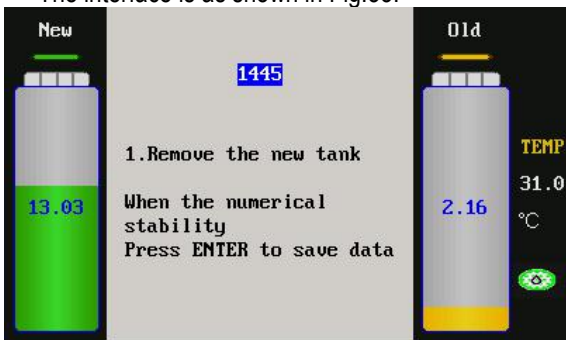

Fig.33
3) According to the prompts on the interface, OK the weight value of the weight, and then press OK key. The interface is as shown in Fig.33.